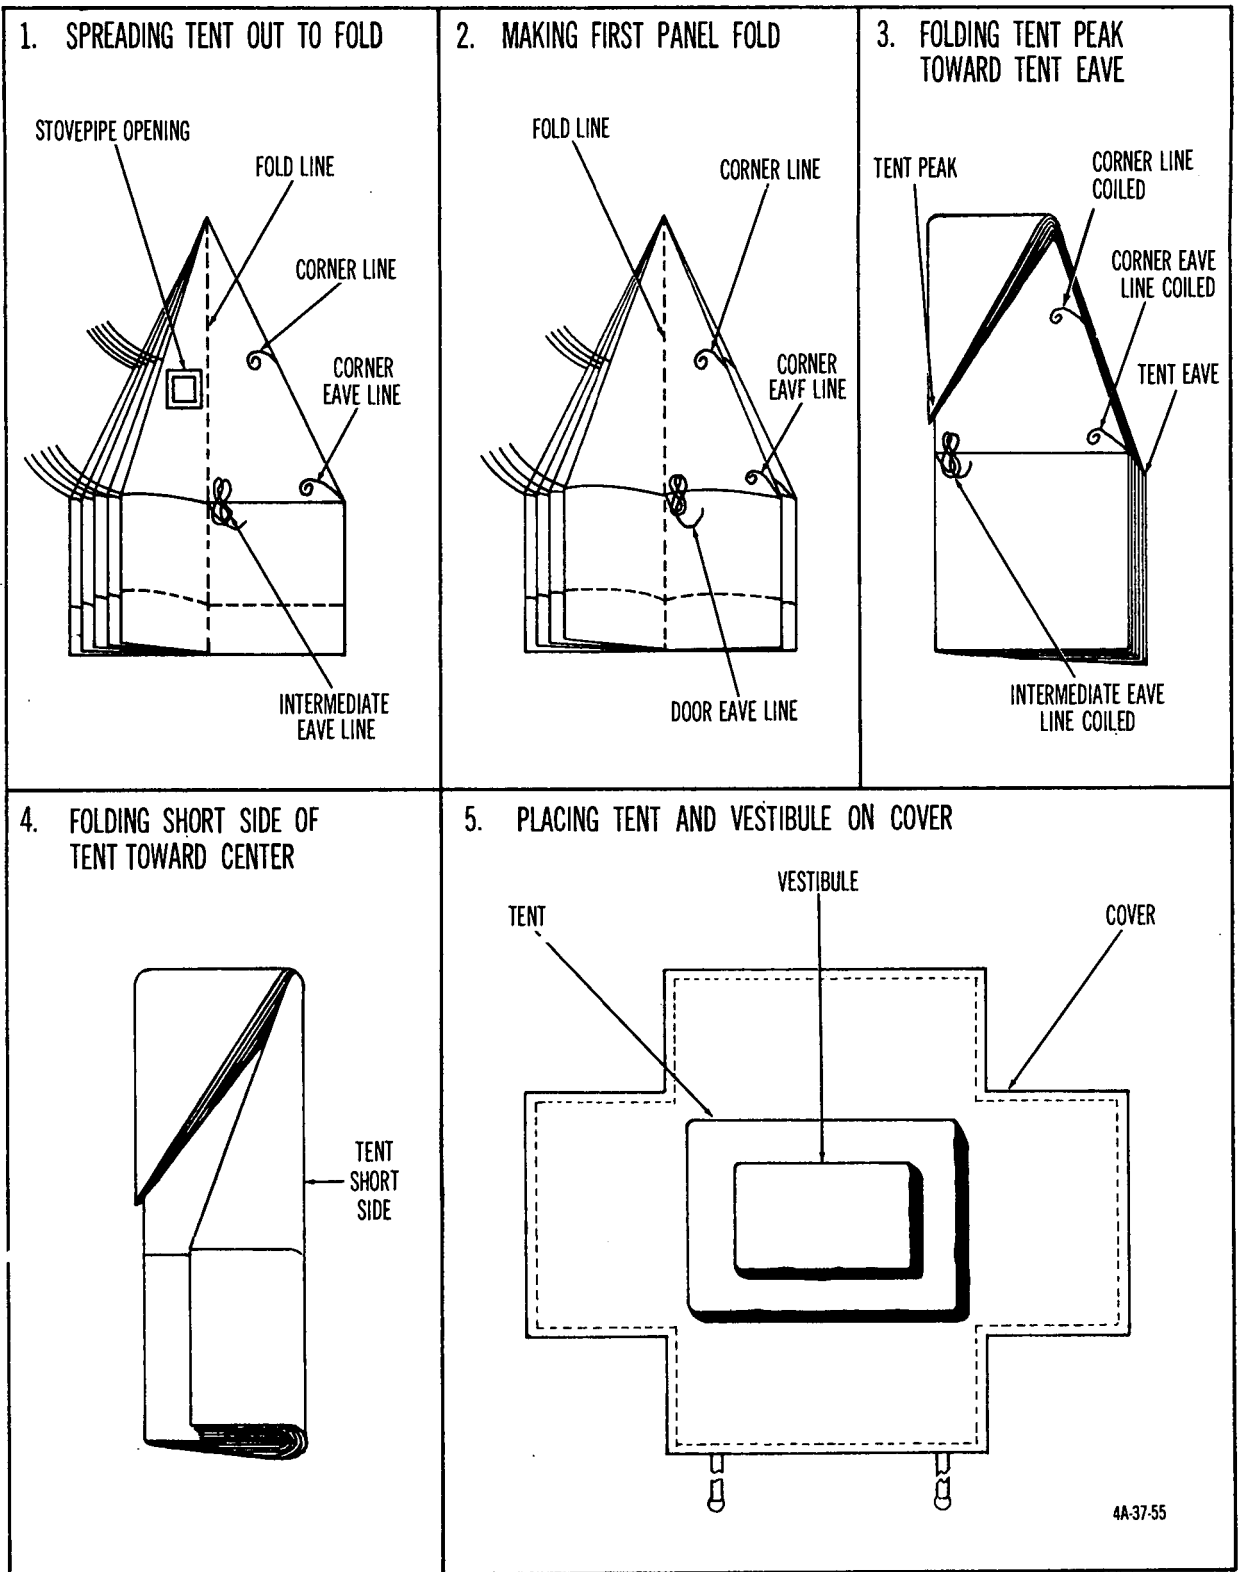

Figure 34. Steps in folding tent, general purpose, small.
- (1) Loosen vestibule guy lines and remove guy line pins.
- (2) Remove vestibule eave poles and telescope poles to their shortest length.
- (3) Remove vestibule from tent.
- (4) Loosen tent footstops from footstop pins, and remove footstop pins.
- (5) Loosen door eave lines and remove door eave poles. Telescope poles to their shortest length.
- (6) Remove door eave lines from tent pins and remove tent pins.
- (7) Loosen all other lines and remove all other eave poles. Telescope poles to their shortest length.
- (8) Remove tentpole and telescope pole to its shortest length.
- (9) Remove all lines from tent pins and remove all tent pins.
- f. *Folding* (fig. 34).
- (1) Engage D-rings into snaps inside front and rear doors, close slide fasteners, and engage D-rings into snaps outside front and rear doors.
- (2) Spread tent on ground and locate stovepipe opening panel. Grasp corner eave line (to right of stovepipe opening) and pull out corner of panel. Then coil intermediate eave line, cor-